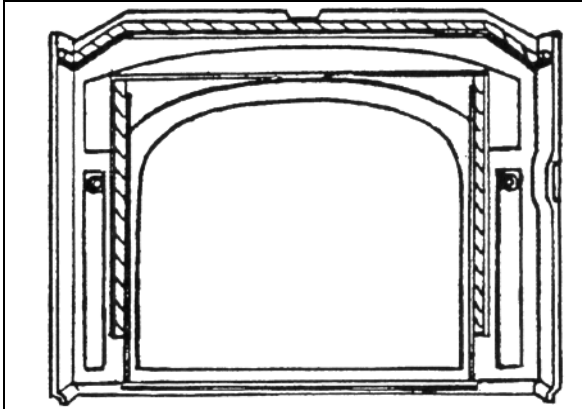

Figure C-2 Front Plate
- Turn the stove bottom right side up. Cement the stove front and air manifold as shown in **Figure C-2 and C-4**, and place the air manifold in its proper position on the inside of the stove front, with the drilled and tapped bosses on the inside of the stove aligned with the holes in the manifold. Attach it with (2) $\frac{1}{4}$ " – 20 x 2" bolts.